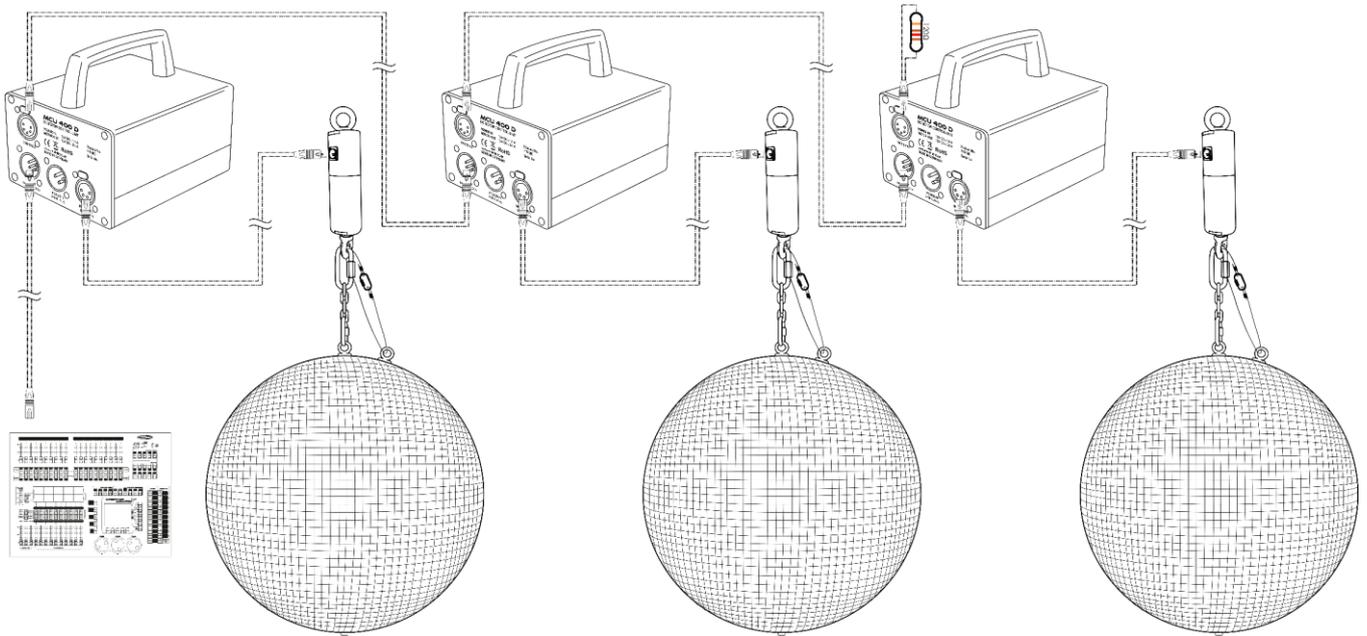

Fig. 04
- 03) Link the devices as shown in Fig. 04 on page 10. Connect a DMX signal cable from the first device's DMX "thru" socket to the second device's "in" socket. Repeat this process to link the second, third, and fourth devices.